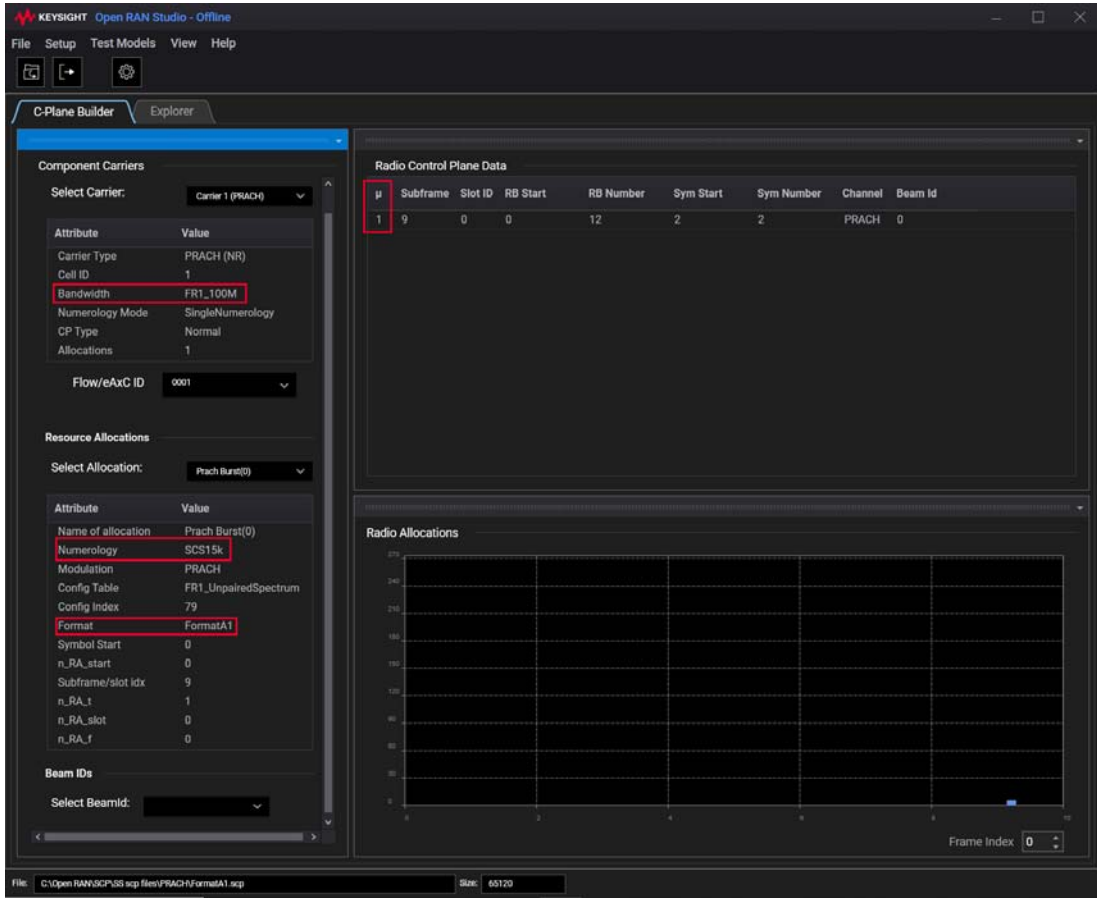

Figure 161 Loading SCP file with the PRACH sequence
- 3 Note down the details that are highlighted in Figure 161, which are required for configuration settings.